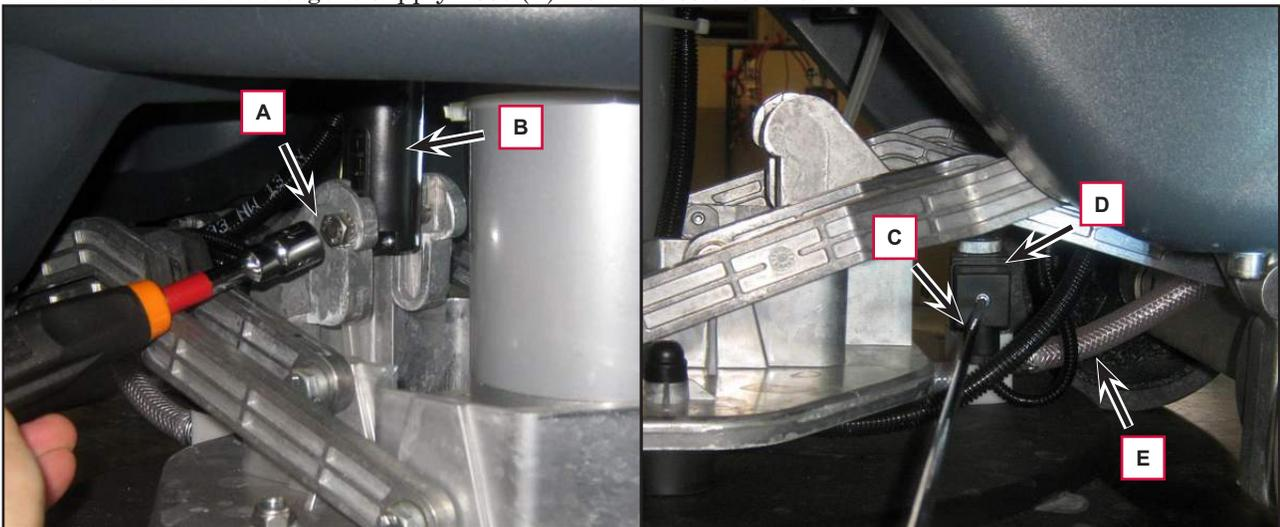

Figure 7
5. Undo the screw (A) (Figure 7) on the pin of the actuator (B); retain the bushing.
6. Unscrew and disconnect the connection (C) on the solenoid valve (D).
7. Disconnect the detergent supply hose (E) from the solenoid valve.